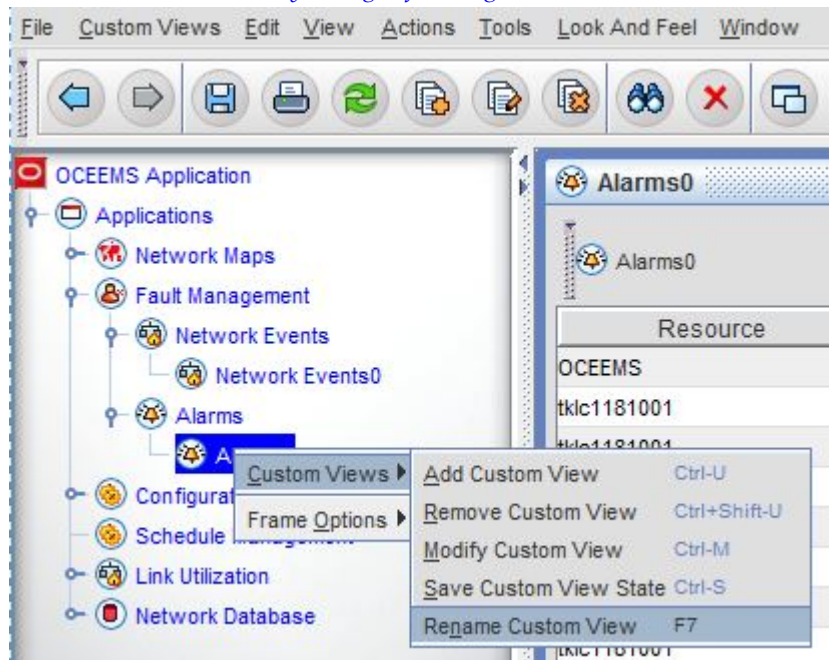

Figure 200: Rename a Custom View By Using Left Navigation Pane
- Right-click on the custom view node under the Network Events/Alarms node in the left navigation pane, and choose **Custom Views > Rename Custom View** as shown in Figure 200: Rename a Custom View By Using Left Navigation Pane.